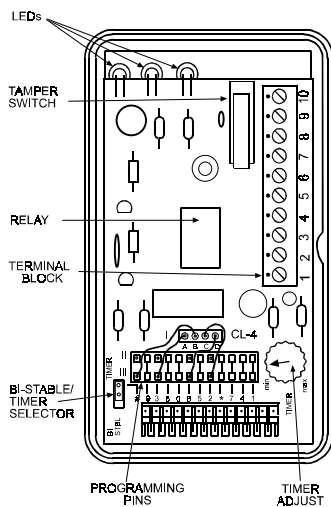
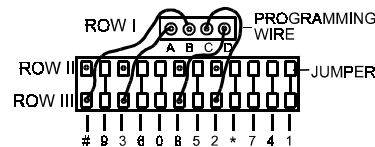

Figure 2. CL-4/CL-4P
Figure 1. Programming 3 # 28
A. Programming of the operating code (4 digits) is accomplished by linking pins in row I (A,B,C,D) to the appropriate pins in row III (characters) according to the selected code sequence, using the 4 supplied wires (Fig. 1). For location of pin rows I, II, III - refer to figures 2,3,4 & 5.
- D. Connect wires to the terminal block in the following order - refer to Fig. 2,3,4 or 5, according to the appropriate model number.
The Red LED in models CL-4, 4P (Fig. 2) is floating and can be powered with 12 VDC voltage, either floating voltage, or with common (-) or (+) poles.